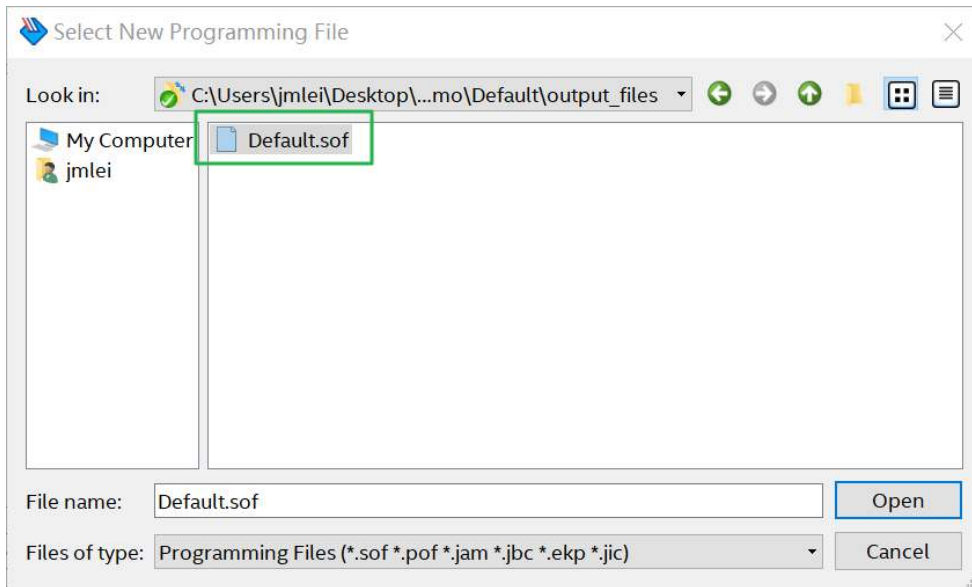

Figure 3-8 Select the .sof file to be programmed into the FPGA device
5. Select the .sof file to be programmed, as shown in **Figure 3-8**.